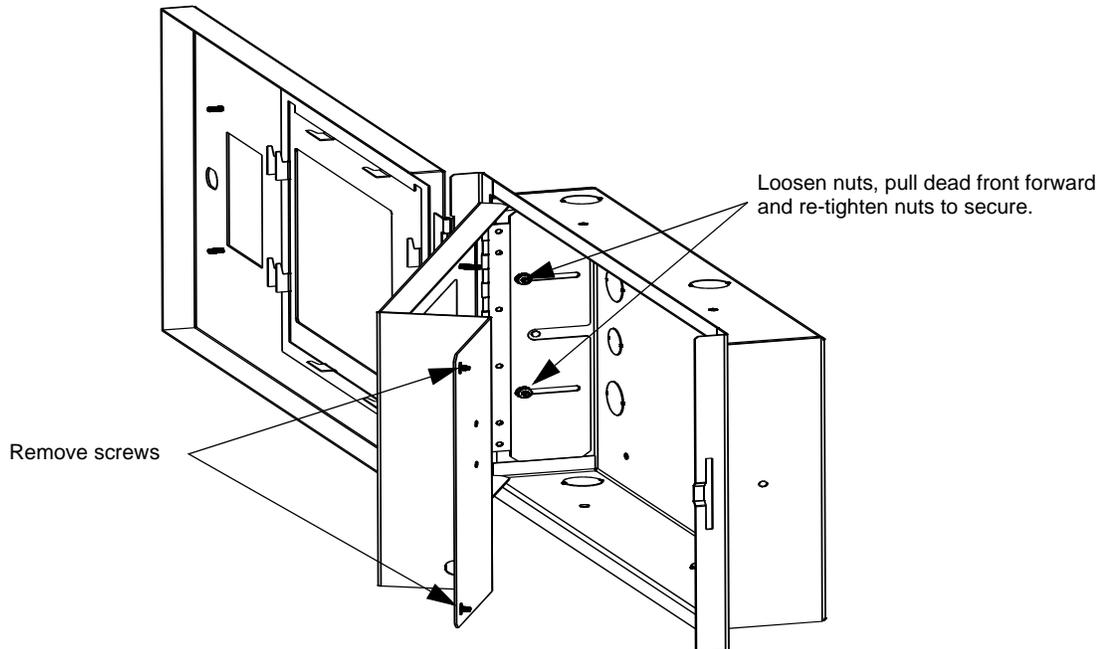

Figure 2 ECS-RPU Dead Front Open 180°
4. Tighten the two nuts. The dead front panel will be able to swing open at 180°. Refer to Figure 2.